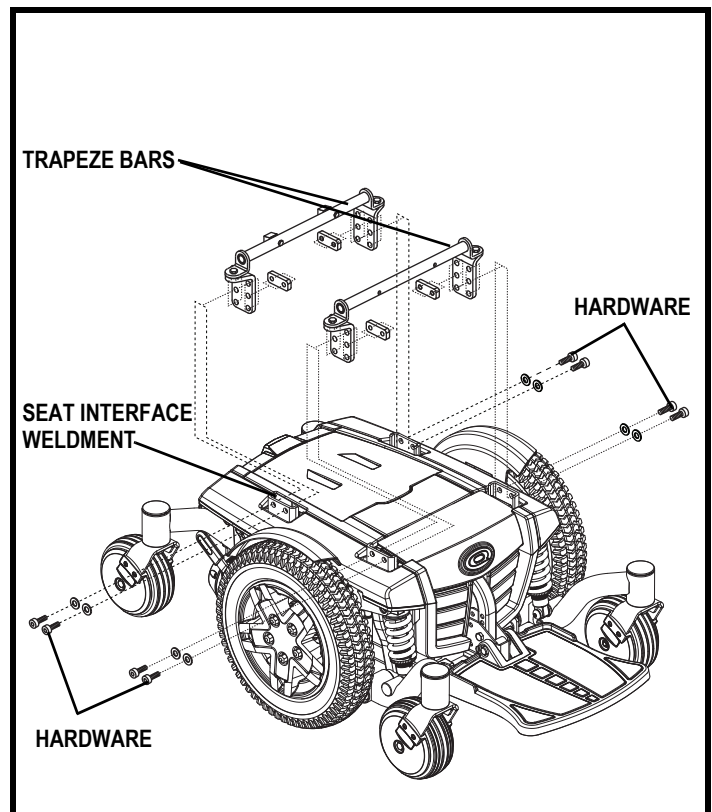

Figure 16. Seat Height/Angle Adjustment
7. Remove the hardware that attaches the trapeze bars to the seat interface weldments. **See figure 16.**